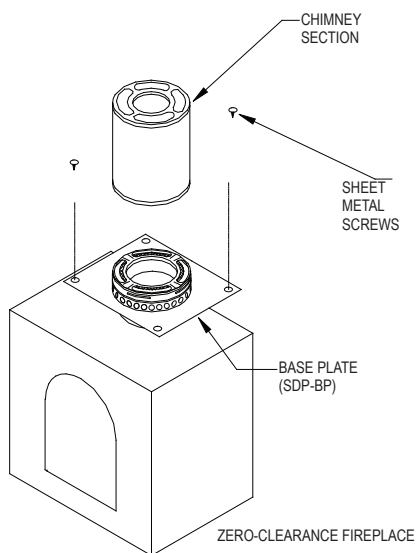

Figure 31
2. Base Plate: Attach a Base Plate to the fireplace top with sheet metal screws. **(Figure 31).** A high temperature sealant may be used if desired.